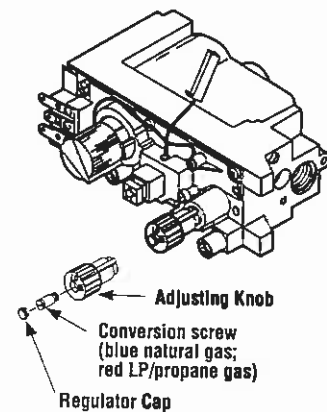

Figure 57
Step 4. Honeywell Systems - Refer to *Figure 57* and the instructions provided with the kit. Remove the regulator cap and the conversion screw. Install the new conversion screw finger tight. It must not be overtightened. Reinstall the regulator cap.